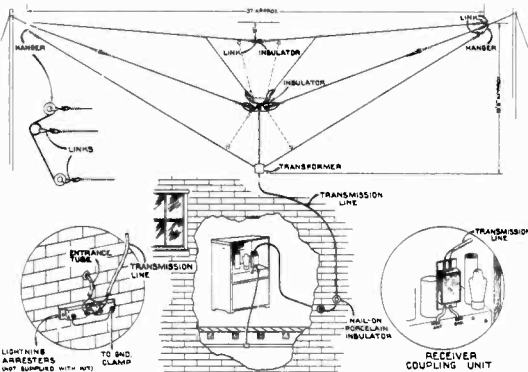

Figure 1—Spider Web Antenna System
- (11) **Ground.**—Attach a ground wire to the "Gnd" (or G) terminal or clip of the receiver and carry to water pipe or metal stake driven 5 to 8 feet into the soil. A clean metallic connection should be made, using a proper ground clamp.
- (12) **Lightning Arrestor.**—Where local ordinance requires, a lightning arrestor may be attached preferably on the outside wall at the point at which the transmission line enters the building. The two transmission line wires, stripped at entrance points, are to be connected as shown in Figure 1.